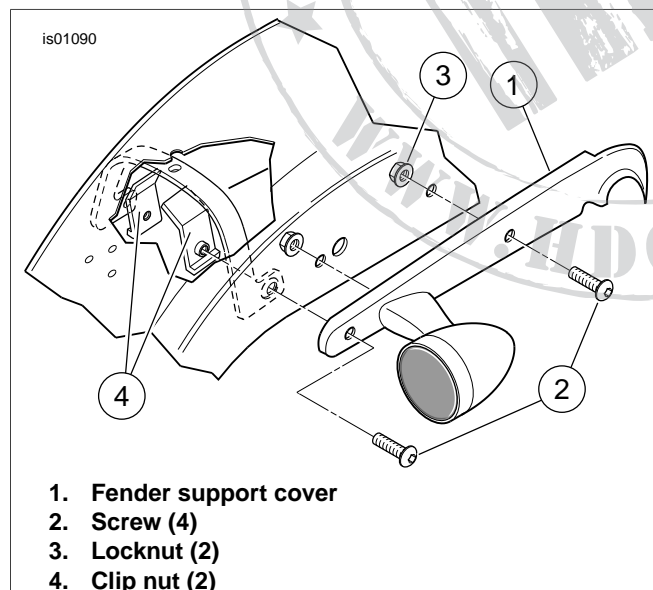

Figure 1. Rear fender Support (Right Side Shown)
1. See Figure 1. Remove and discard the front screw (2) and locknut (3) from the rear-fender support cover (1).